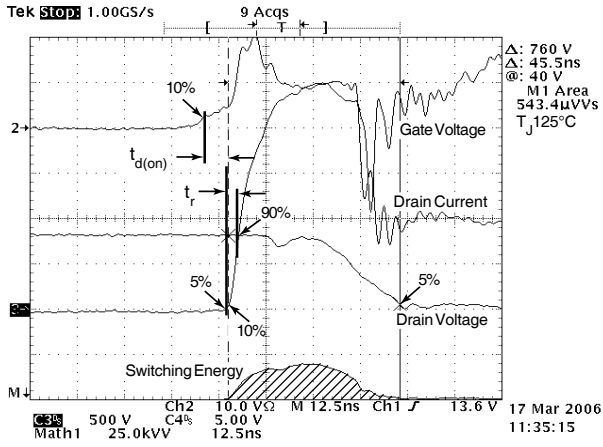

Figure 18, Turn-on Switching Waveforms and Definitions
① Repetitive Rating: Pulse width limited by maximum junction temperature
② Pulse Test: Pulse width < 380 μs, Duty Cycle < 2%
③ See MIL-STD-750 Method 3471
④ Starting $T_J = +25^\circ C$, $L = 29.9mH$, $R_G = 25\Omega$, Peak $I_L = 9A$
⑤ dv/dt numbers reflect the limitations of the test circuit rather than the device itself. $I_S \leq -I_D 9A$ $di/dt \leq 700A/\mu s$ $V_R \leq 1200$ $T_J \leq 150^\circ C$
⑥ E_{on} includes diode reverse recovery. See figures 18, 20.